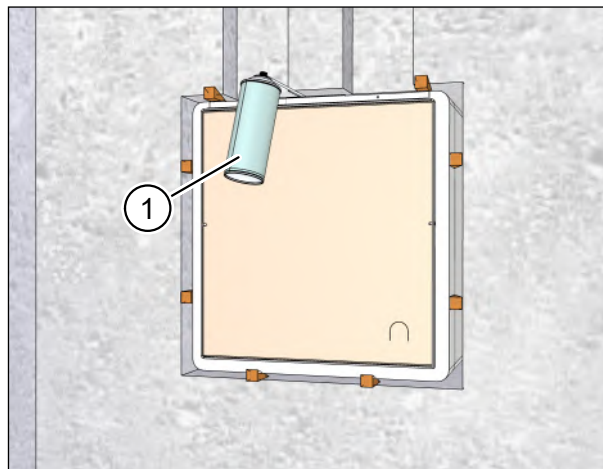

Fig. 25: Filling gaps around the wall box with foam
- ▶ Fill the gaps between the wall box and wall breakthrough all around and continuously with expanding foam (item 1 in Fig. 25) or using another suitable filling material.